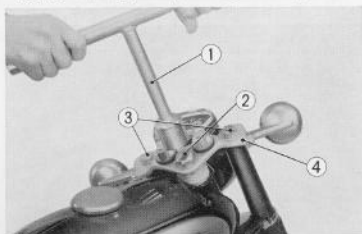

Fig. 4.7 Removing the top bridge plate
6. The fork top bridge ④ is removed together with the turn signal lights by removing the front fork bolts ③ and the steering stem nut ②. (Fig. 4.7)